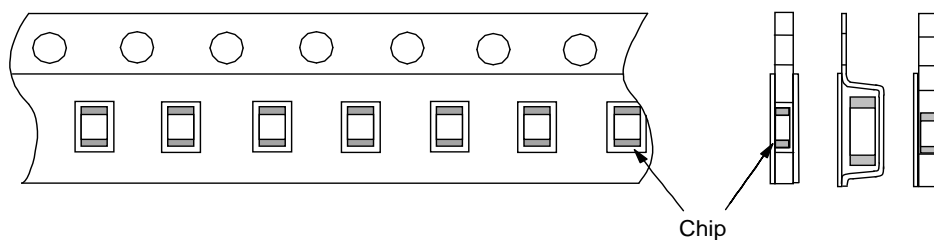

Fig.2 Dimensions of Reel
<p>Fig.2</p>
1.11 Reel is made by resin and appeaser and dimension is shown in Fig 2.